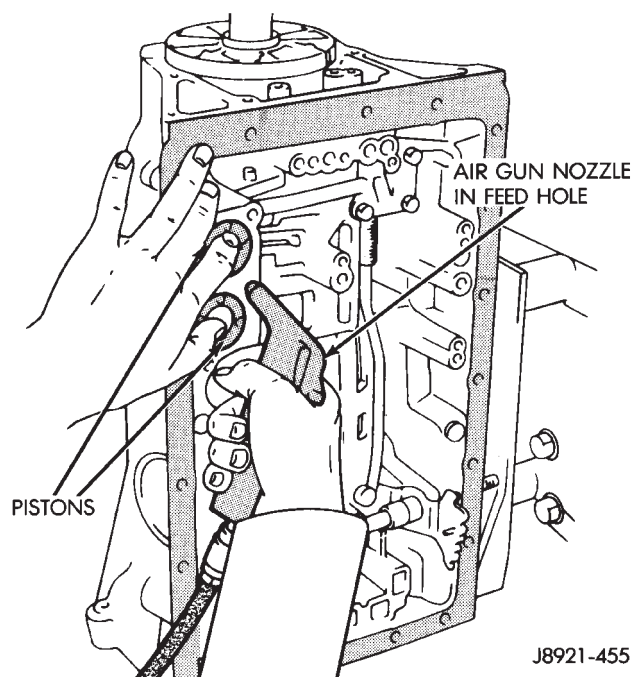

Fig. 27 Accumulator Piston Removal
(1) Remove valve body. Refer to procedure in this section.
(2) Remove accumulator pistons with compressed air (Fig. 27). Apply air through small feed hole next to each piston bore. Catch each piston in a shop towel as it exits bore.